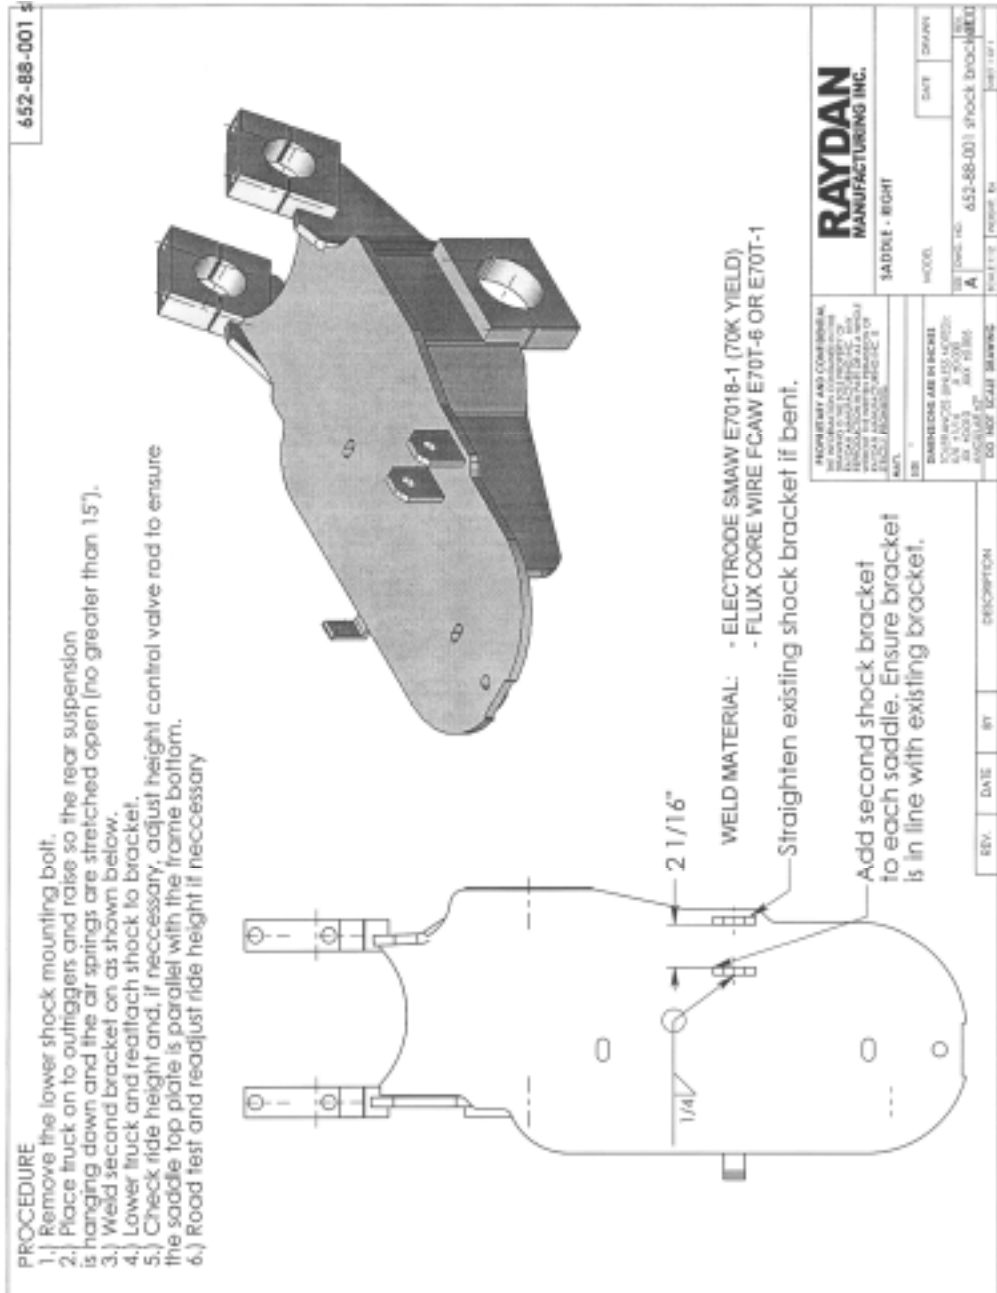

FIG. 2-2
2. Refer to Raydan Manufacturing Inc. drawing #652-88-001 in FIG. 2-2. Perform the rework procedure as stated for both sides.